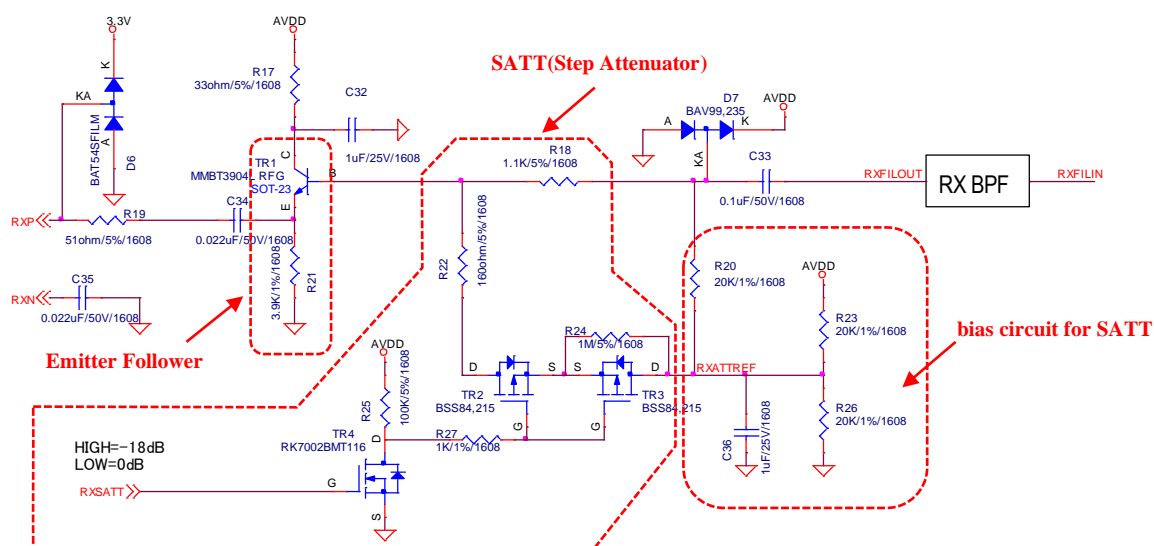

Figure 3-14 Example of Step Attenuator (SATT) circuit
- (1) Using the received preamble data, the level detection function of the digital baseband section determines whether the signal strength of the ADC output exceeds the signal level saturated in the receiving circuit.
- (2) When the signal level saturated in the receiving circuit is exceeded, the received signal is attenuated by switching the RXSATT signal from 0 to 1 and switching the SATT gain from 0dB to -18dB.
- Figure 3-14 shows an example of the SATT circuit used for the PLC board.